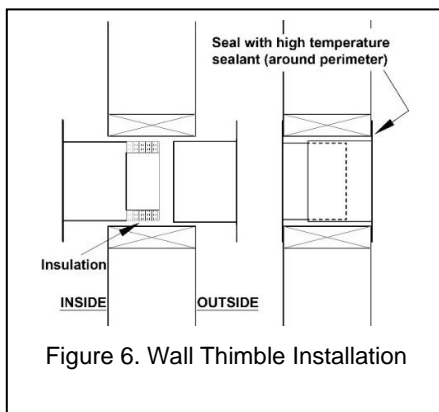
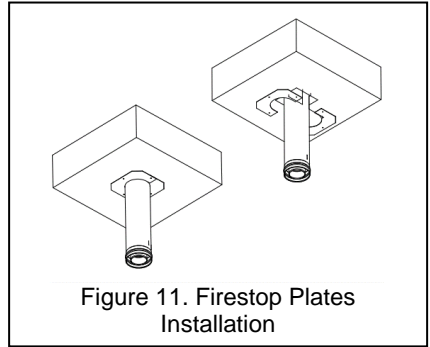

Figure 6. Wall Thimble Installation
Figure 11. Firestop Plates Installation
9. If using a Wall Thimble, install the interior and exterior portions of the Wall Thimble (WT, WTI) and screw (or nail) them to the framed opening. If using the Insulated Wall Thimble (WT), the insulated portion goes inside the house (see Figure 6). Install the included Firestop Plates (FSP) around the vent length and screw it in using the included self-tapping screws.
12. Pass the final Length (L) through the Wall Thimble (WT, WTI).
- a. Ensure there is no joint between two vent Lengths (L) located inside the Wall Thimble (WT, WTI) because the Locking Band (LB) will not fit inside the Wall Thimble (WT, WTI) tubing.
13. From the outside, fasten the Horizontal Termination (HT) to the final vent Length (L) using the provided Locking Band (LB).
14. From inside, move the gas appliance into its final position, ensuring the vent Length (L) fully engages with the appliance outlet collar.
15. **Important: Firestop Plates (FSP) are required on the bottom of each floor installed from below and on each wall installed on both sides. See Figure 11 on page 16 for more information.**
- **Important: Firestop Plates (FSP) are required on the bottom of each floor installed from below and on each wall installed on both sides. See Figure 11 on page 16 for more information.**
- On a horizontal installation, the Wall Thimble (WT, WTI) includes Firestop Plates (FSP) included (Figure 6). They are installed around the vent and screwed into the Wall Thimble (WT, WTI).
- On vertical installations, the Firestop Ceiling Support (FS) has the Firestop Plates (FSP) included and are screwed into the bottom plate of the Firestop Ceiling Support (FS). If a Base Support (BS) or other support is used, the Firestop Plates (FSP) are screwed directly into the roof joist.
The Firestop Plates (FSP) come in two identical half-circular parts. **This part is required on the bottom of each floor installed from below and on each wall installed on both sides. See Figure 11 on page 16 for more information.**
Important: Firestop Plates (FSP) are required on the bottom of each floor installed from below and on each wall installed on both sides. See Figure 11 on page 16 for more information.